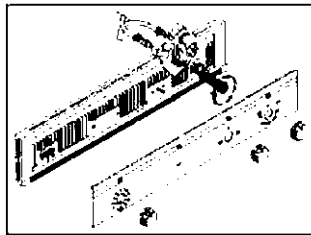

FIG. 4
. A niche is required in the kitchen unit as per the dimensions shown on the figure, providing a minimum depth of 580 mm. (See figures 4 and 5 describing oven fitting on the page 68).
- If there is a glass front panel, it has to be removed by unscrewing the two fixing screws (fig 4).